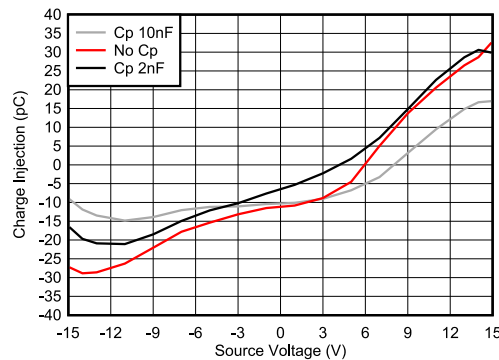

图 8-3. Charge Injection Compensation
The TMUX6219-Q1 contains specialized architecture to reduce charge injection on the source (Sx). To further reduce charge injection in a sensitive application, a compensation capacitor (C_p) can be added on the drain (D). This will ensure that excess charge from the switch transition will be pushed into the compensation capacitor on the drain (D) instead of the source (Sx). As a general rule of thumb, C_p should be 20× larger than the equivalent load capacitance on the source (Sx). Figure 8-3 shows charge injection variation with source voltage with different compensation capacitors on the Drain side.